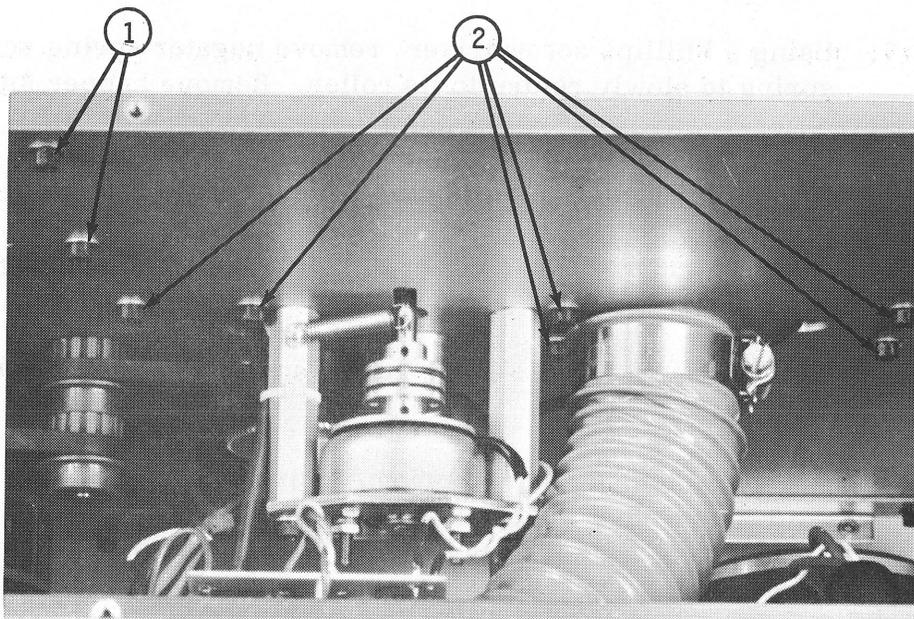

Figure 9-16. Picker Casting Removal
2. Using LOCTITE GRADE C, set all six socket head screws ②, figure 9-16, BUT DO NOT TIGHTEN.